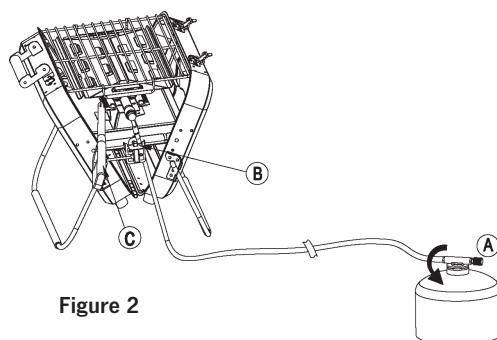

Figure 2
**USE OF GAS GRILLS****1. Piezoelectric ignition (Figure 2, Page 13)**
As shown in **Figure 2-A**, turn the control knob ⑪ counterclockwise for about 1/3 turn (the arrow points to "+") turn it down properly when the cylinder is full) to turn on the gas.
As shown in **Figure 2-B**, repeatedly press the button ⑨ until the gas grill is ignited.
Place the ignition gun head close to the burner (**Figure 2-C**), rotate the control knob counterclockwise (the arrow points to "+"), gradually turn on the gas, and press the ignition gun switch (**Figure 2-C**).